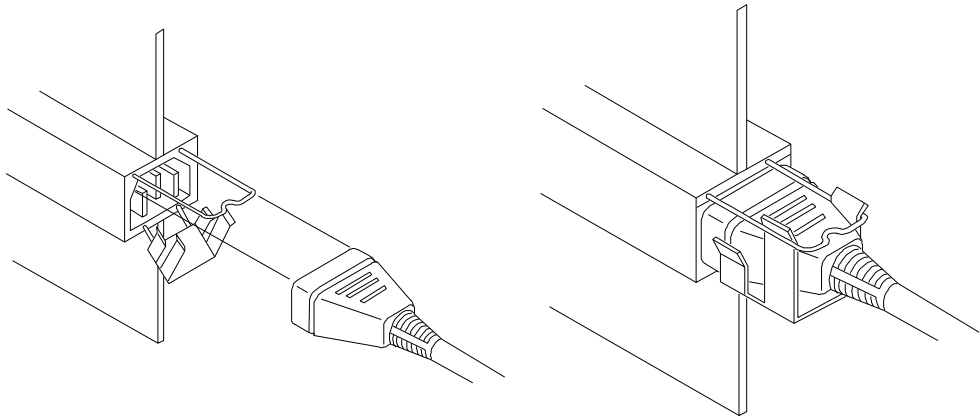

Figure 3-2. Power Cord Retainer
5. Remove the yellow tamper evident plug (not pictured) from the power supply. Then plug in the power supply cord. The power cord retainer holds the plug in place. To attach the power cord retainer, push up on the metal piece underneath and secure it with the locking mechanism. See Figure 3-2.